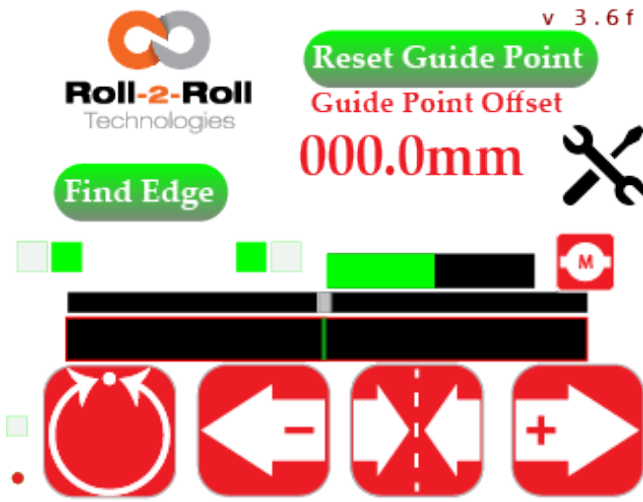

Figure 5.10: Fully open with two sensors.
- If neither sensor detects the web, the web position bar would display as entirely black with a green line in the center, as illustrated in Figure 5.10.